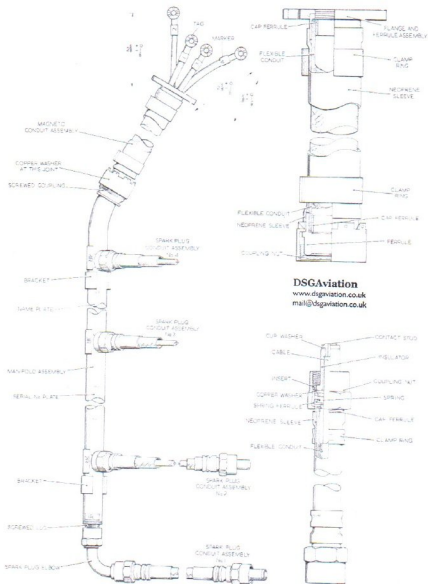
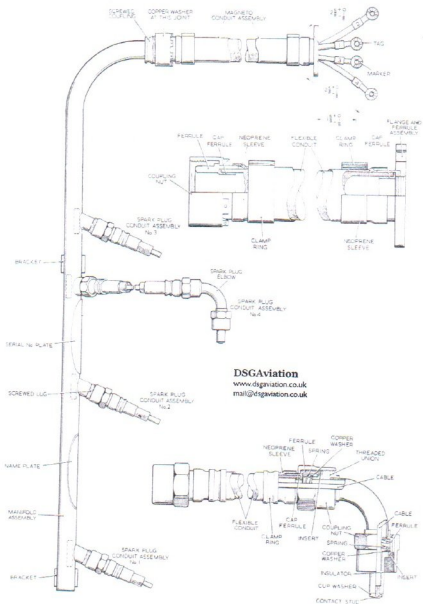

Fig. 1. Ignition harness, right-hand
Fig. 2. Ignition harness, left-hand
(4) Treat all threads with an approved anti-seize compound.
(5) Fit spark plug conduit assembly.
(6) Fit insulator, contact stud and cap washer to cable end.
(7) Using special tool connect and tighten coupling nut at magneto conduit to manifold tube joint.
(8) Fit cable marker.
(9) Refer to fig. 1 or fig. 2 as appropriate and strip back cable end and fit tag to give indicated length from magneto adapter.